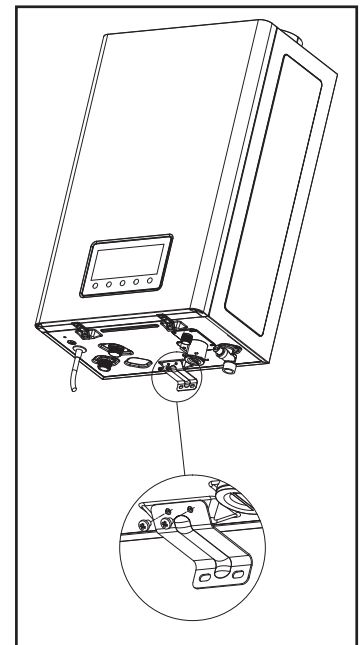

Fig. 6.3
2. Use the screws in the package to secure the lower bracket to the bottom of the water heater. (See Fig. 6.3)